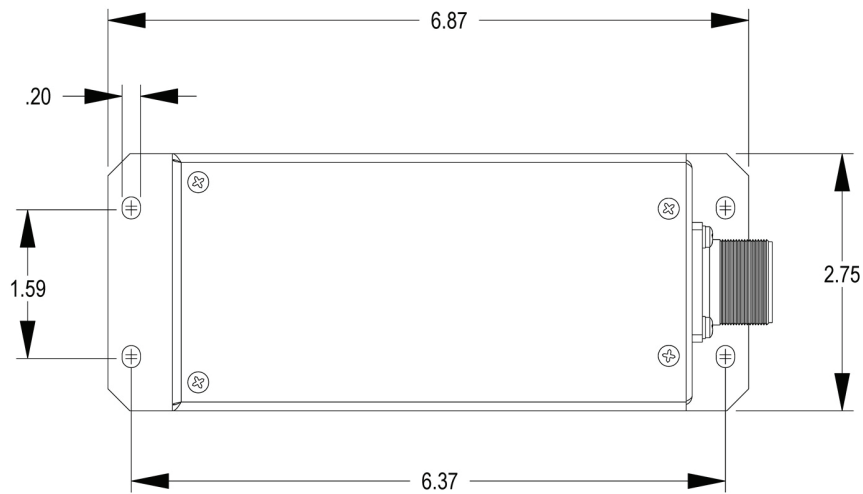
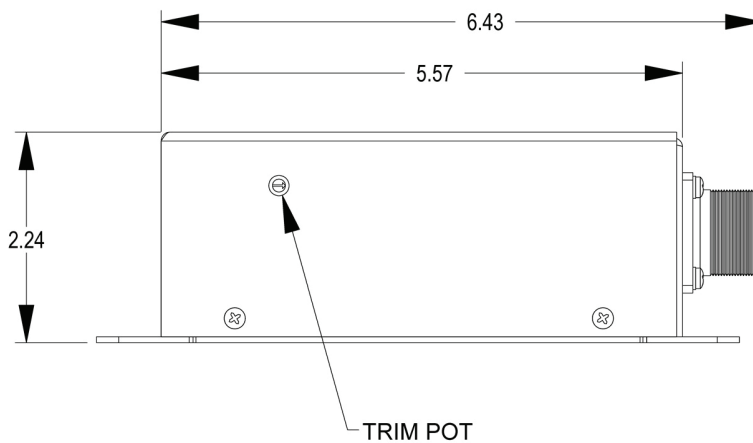

Figure 1 Chassis Footprint Dimensions
Figure 2 Chassis Profile Dimensions
- 1.6. Refer to Figure 1 and Figure 2 for Power Converter reference dimensions that may be used when planning the installation.